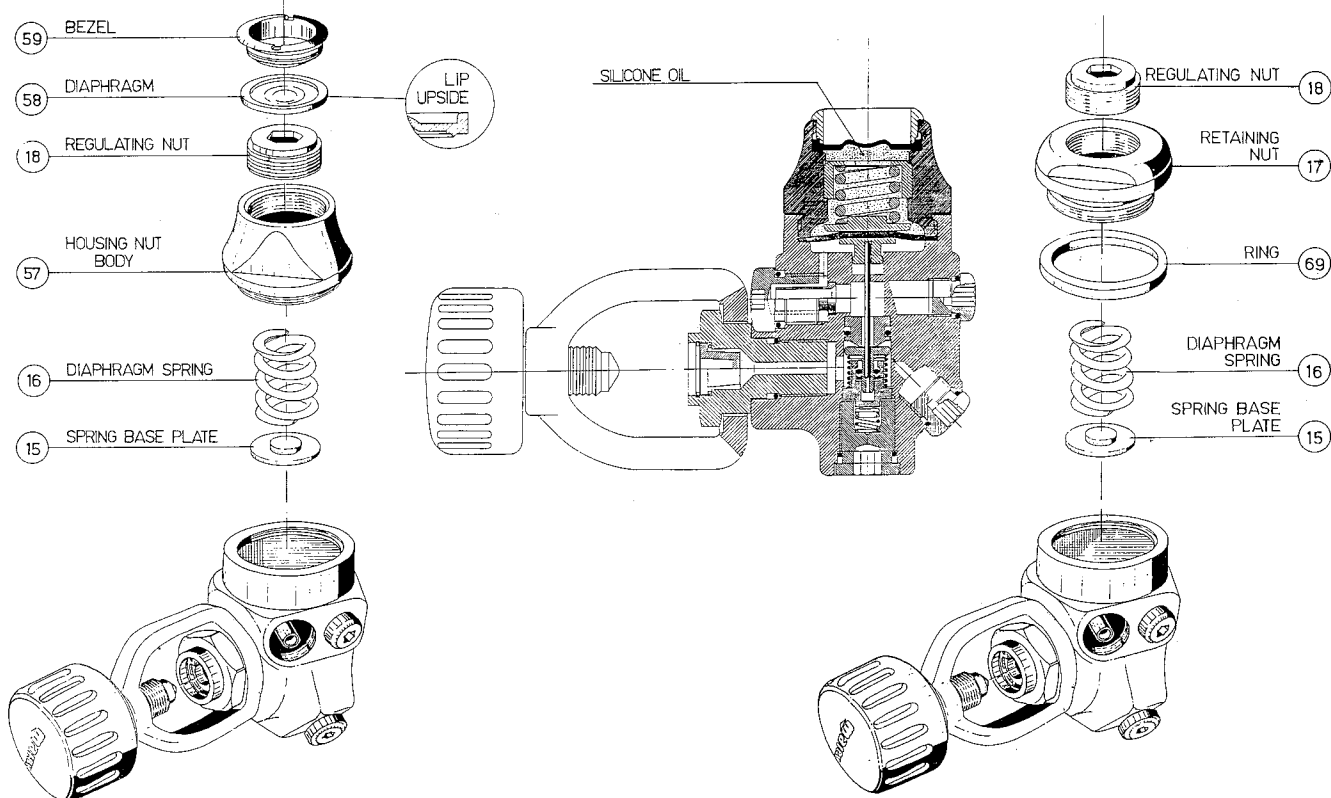

FIG. 23
22. Install diaphragm (58) with the lip facing up (See inset Fig 23).
23. Install CWD bezel (59) and tighten with tool provided in CWD kit. The bottom edge of the bezel should contact the retaining nut.